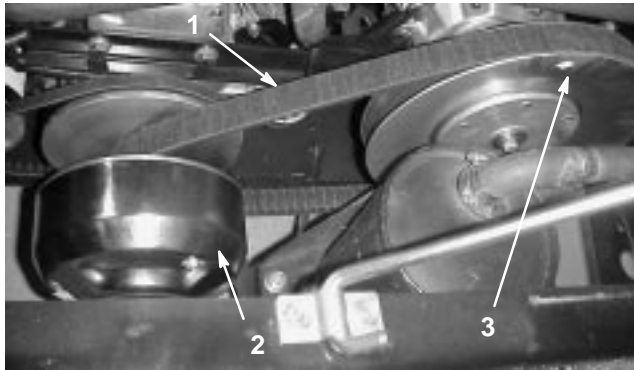

Figure 29
1. Rotate and route the belt over the secondary clutch (Fig. 29).
2. Remove the belt from the primary clutch (Fig. 29).